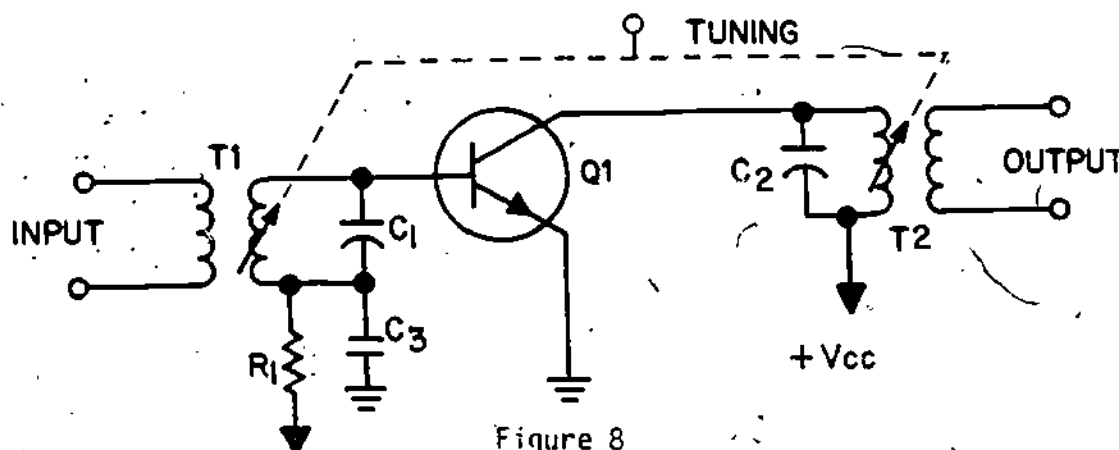

Figure 8
9. Figure 8 shows another way to retune, at the same time, both the input and output coupling circuits in an amplifier.
The components which are variable in Figure 8 are the _____.